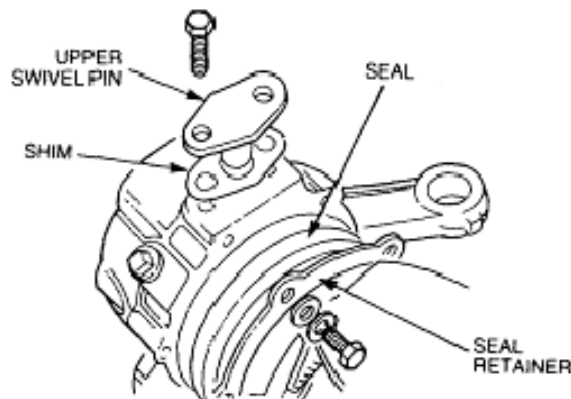

Figure 99 Swivel Housing Oil Seal Removal
- f. Remove the two bolts and washers retaining the upper swivel pin, hose retaining bracket and shims (Figure 99).